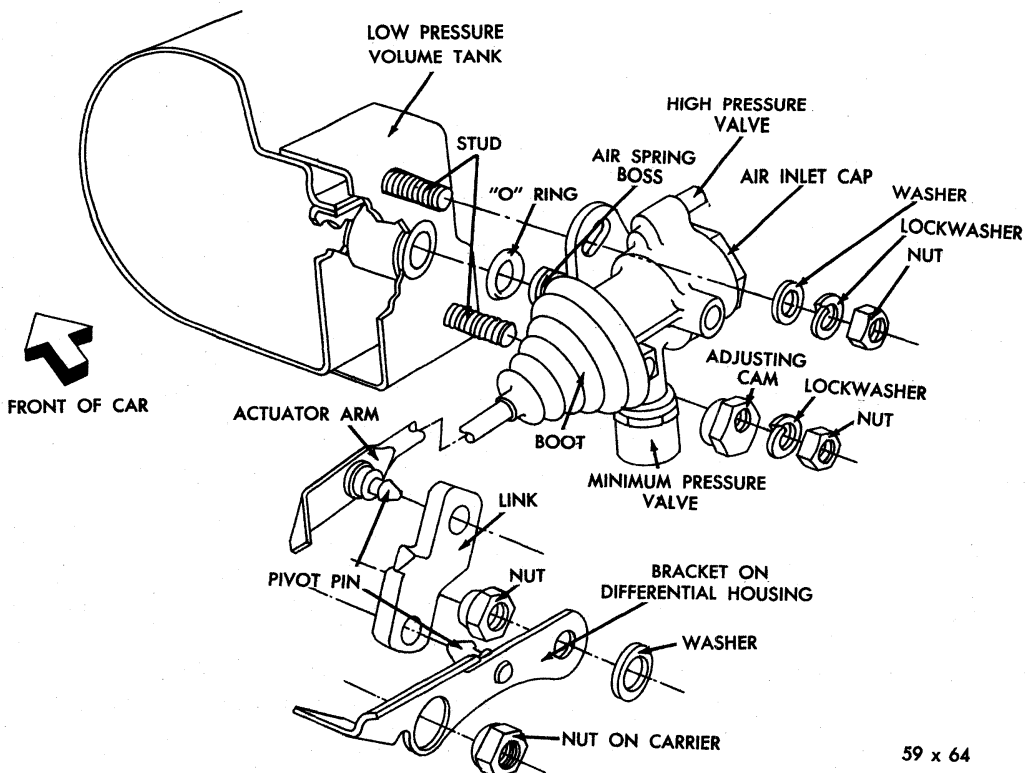

Fig. 5 — Height Control Valve
check valve is connected to the high pressure reservoir tank under the right front fender. A second high pressure line connects the high pressure tank to the height control valve (Fig. 5) on the low pressure volume tank. The low pressure volume tank is mounted between the frame side rails above the rear axle. Two air springs from the low pressure volume tank are connected to the two air spring pistons on the rear spring plates. The height control valve actuator arm is connected to the rear axle assembly by a rubber link.
**HEIGHT CONTROL VALVE (Fig. 5)**